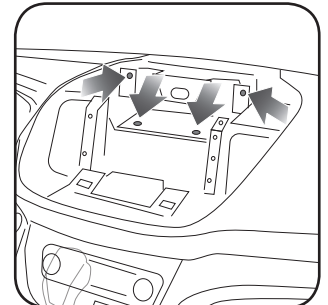

Fig. 1.6
6. Remove (4) 7mm screws securing the radio mounting hardware. (Fig. 1.6)